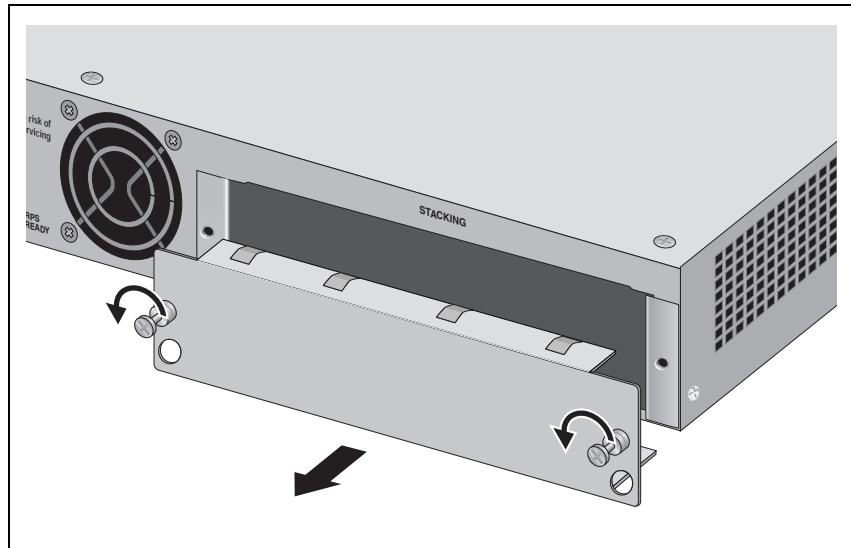

Figure 58. Removing the Blank Panel from the Expansion Slot
2. Remove the blank panel or AT-LBM module from the expansion slot on the rear panel of the switch by loosening the two captive screws on the panel with a cross-head screwdriver, as shown in Figure 58 on page 90.